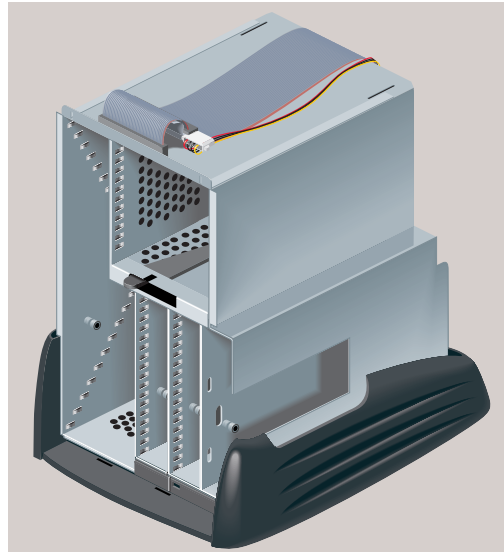

Figure 5-62 The Stripped Down Workstation Chassis
7. Ship the stripped-down chassis shown in Figure 5-62 to Silicon Graphics.